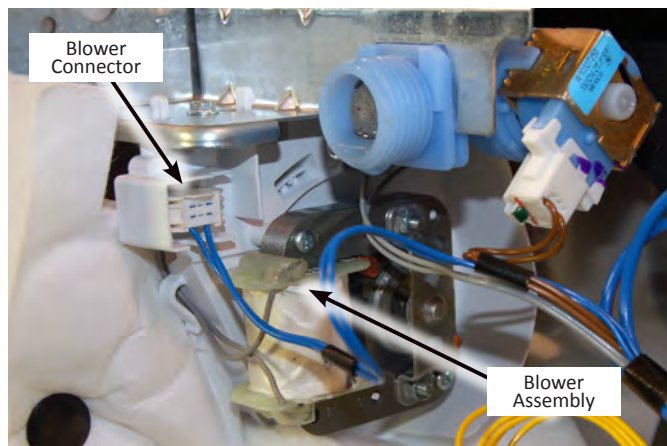

Figure 3
3. From underneath the tub, disconnect the harness and remove the blower vent from the Blower Assembly (see Figure 3).
4. Remove the two (2) 1/4" screws securing Blower Assembly to dishwasher and remove assembly (see Figure 3).